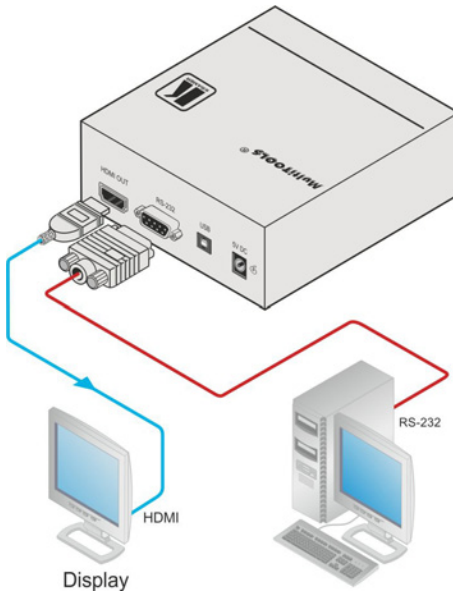

Figure 3: Connecting the 840Hxl Pattern Generator
| Figure 3: | Connecting the 840Hxl Pattern Generator | 7 |
To connect the **840Hxl** as illustrated in the example in Figure 3:
3. Connect the power adapter to the 5V DC socket and to the mains electricity (not shown in Figure 3).